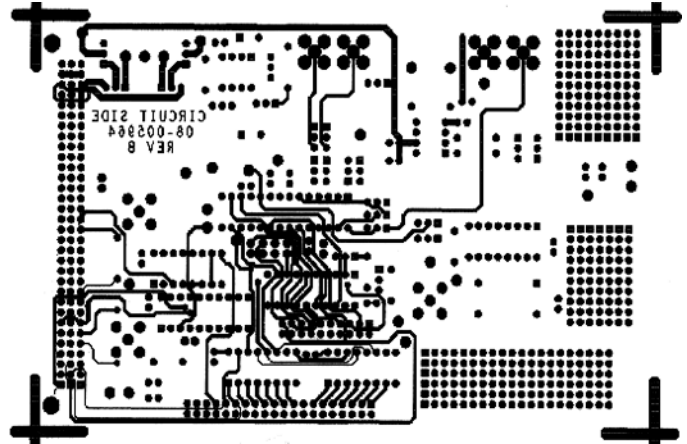

Figure 7. Circuit Side (Not to Scale)
- Circuit Side Layer – Figure 7.